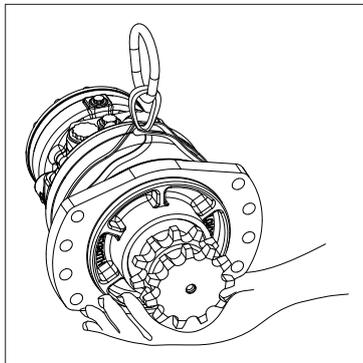

Fig. 17: Transport with lifting sling
- ▶ Ensure the radial piston motor is securely held within the sling by positioning it in such a way that it cannot slip off the end of the motor (Fig. 17).